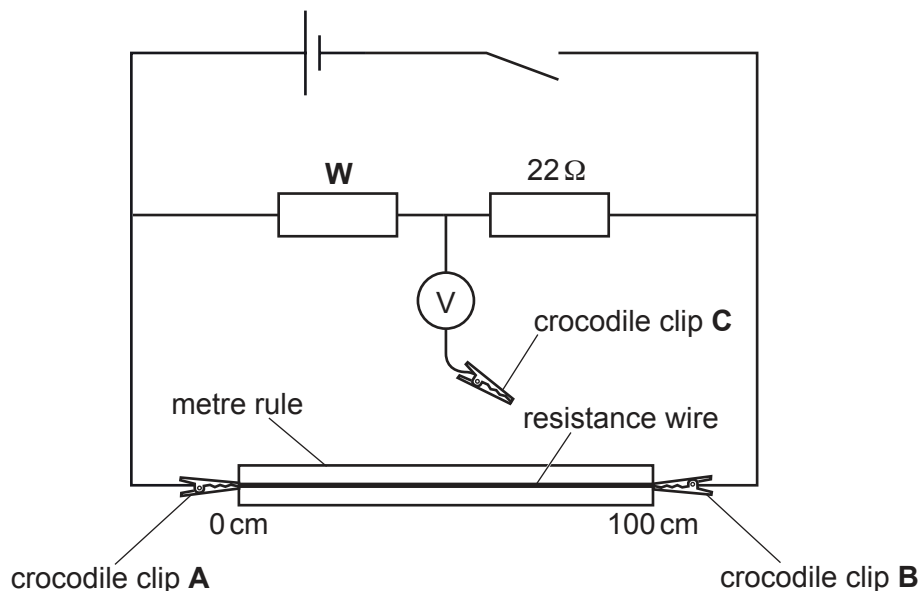

Fig. 4.1
sufficient • leads • crocodile clips to set up the circuit shown in Fig. 4.1. (see note 4.4)	8 3
4.4 The circuit should be assembled for the candidate as shown in Fig. 4.1.
Ensure circuit is assembled as shown in Fig. 4.1. Check that the switch is open. Disconnect crocodile clip **C** from the resistance wire if necessary. Check that the cell is still 1.5 V.